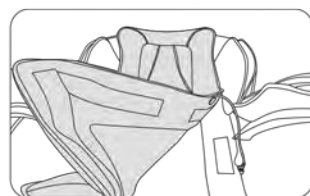

Figure 12
- Plug the heat plug of the back cushion into the heat hole on the backrest, and put the back cushion tidily on the backrest. (Figure 12)